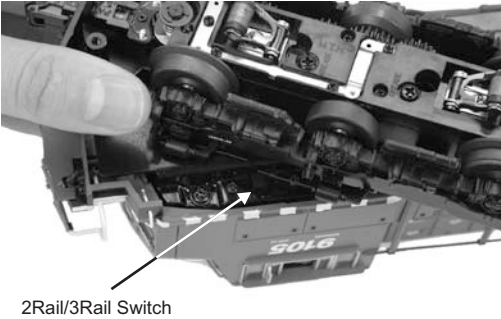

Figure 4: 2Rail/ 3Rail Switch & Smoke Control
(As shown in figure 4, the 2Rail/ 3Rail switch is located underneath the one of the trucks.) Your locomotive can be configured to operate on 2-Rail or 3-Rail track. From the factory the locomotive is configured to operate on 3-Rail Track. To configure the locomotive for 2-Rail track operation, please do the following:
2. Change the power input from 3-Rail to 2-Rail as seen in figure 4.